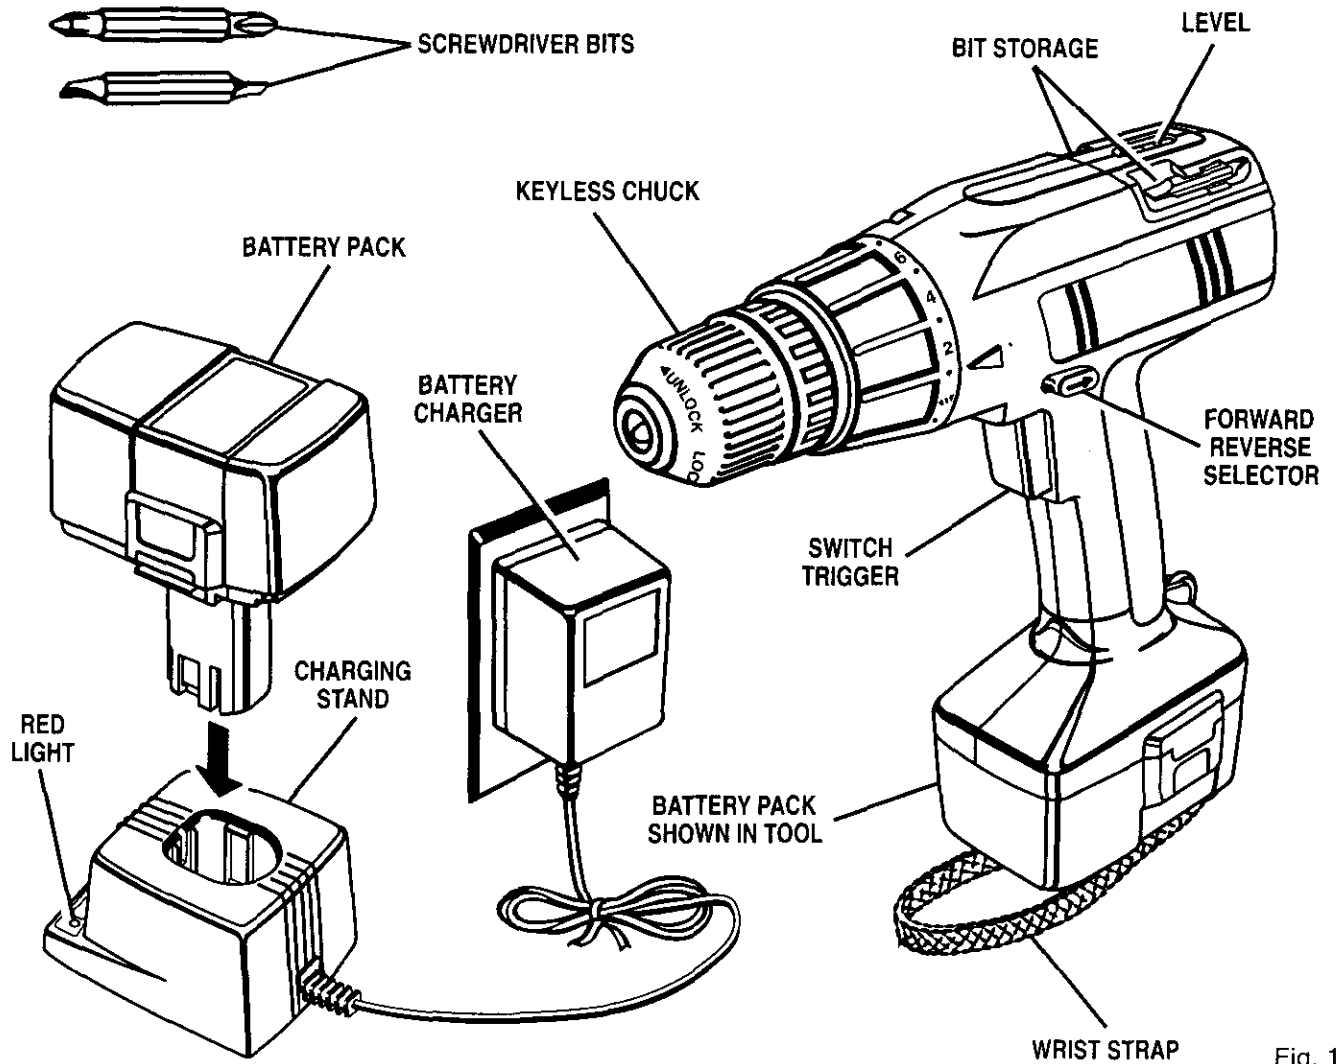

Fig. 1
See Figure 1.
- Place battery pack in charging stand. Align raised rib on battery pack with groove in charging stand. *See Figure 1.*